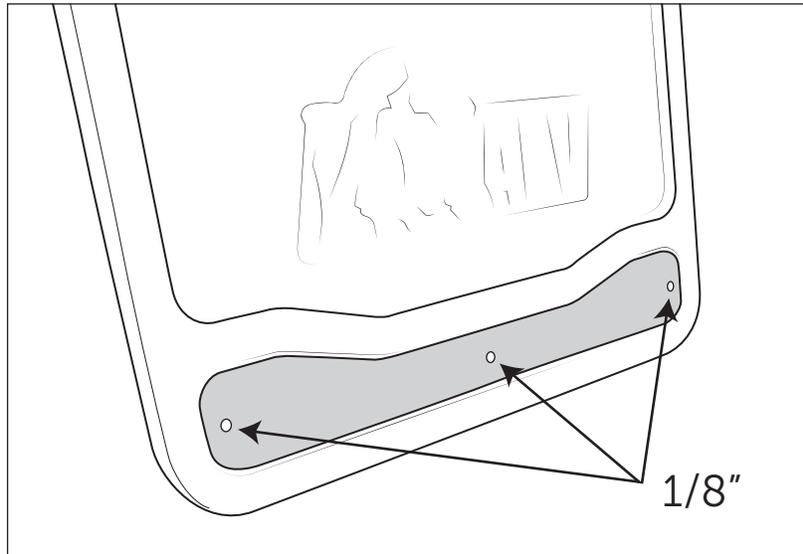

Figure 1
1. Fit the plastic reflector backing into place on the Splash Guard. Mark the three holes and drill 1/8" holes through the Splash Guard (fig. 1).